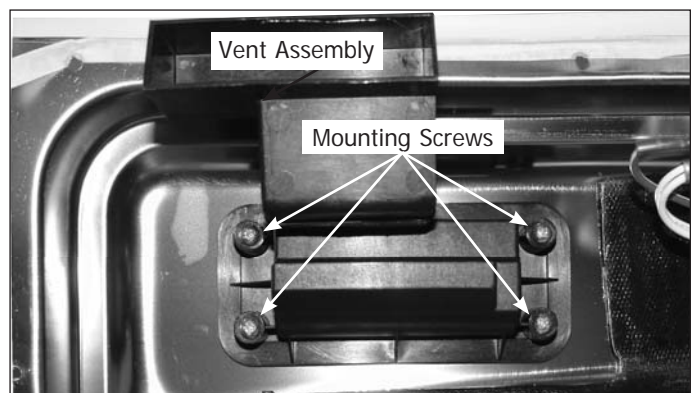

Figure 4-7.
3. Extract the four screws securing vent housing to the vent grate located on the inside of inner door panel. (See Figure 4-7) Pull vent assembly off inner panel. The vent grate will be removed from the opposite side of the inner panel.